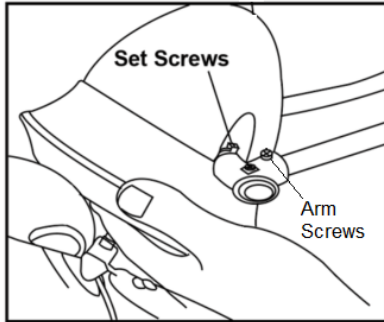

Fig. 8
- Loosen the two set screws on both sides of the motor; (Fig.8)